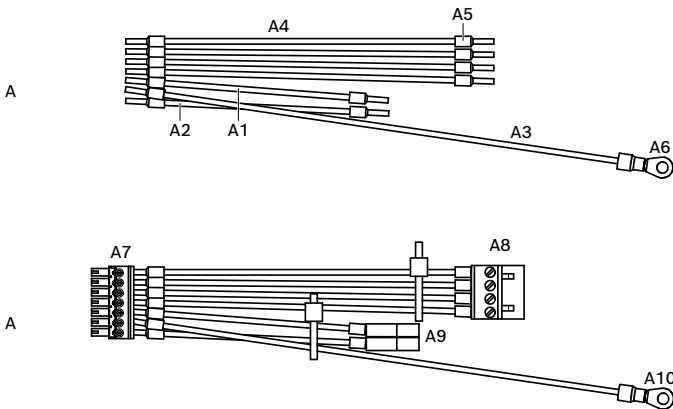

Figure 4.1: Power cable (AMC2)
1. Connect the 7-pin plug A7 (Figure 4.1) to the power supply connector (label: POWER) of the AMC2.
2. Attach connector A8 (Figure 4.1) to the power supply connection labeled OK.
3. Attach connector A9 (Figure 4.1) to the power supply connection DC.
4. Connect the grounding cable A6 (Figure 4.1) to the AMC2 grounding point.